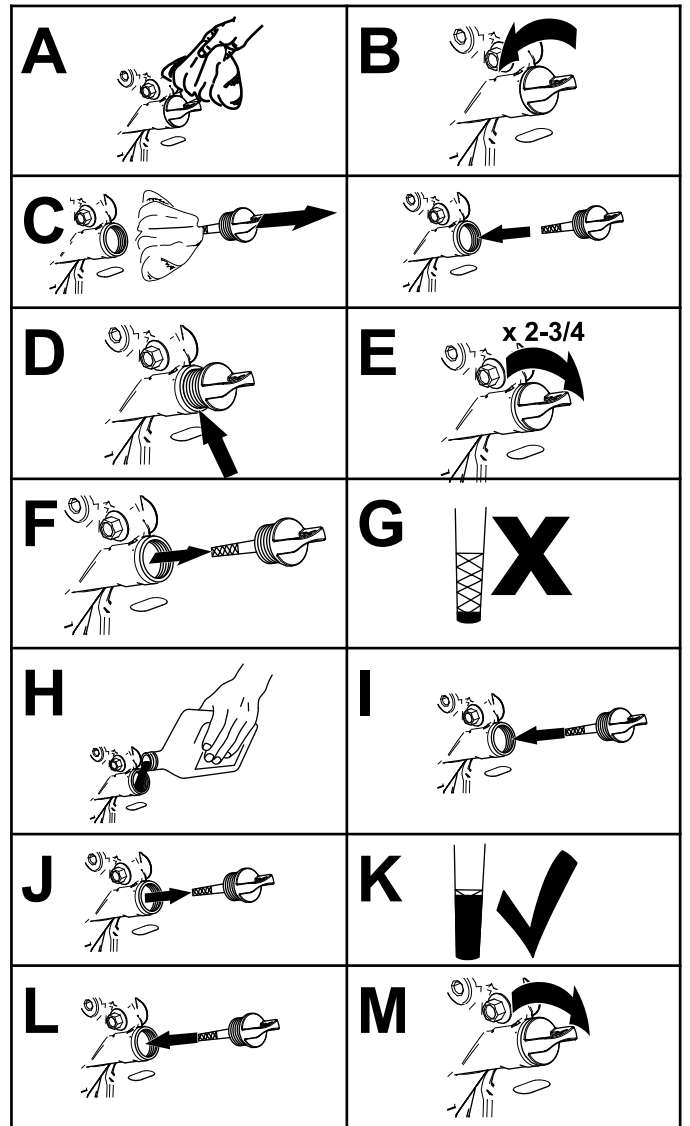

Figure 36
- Check the engine-oil level as shown in Figure 36.